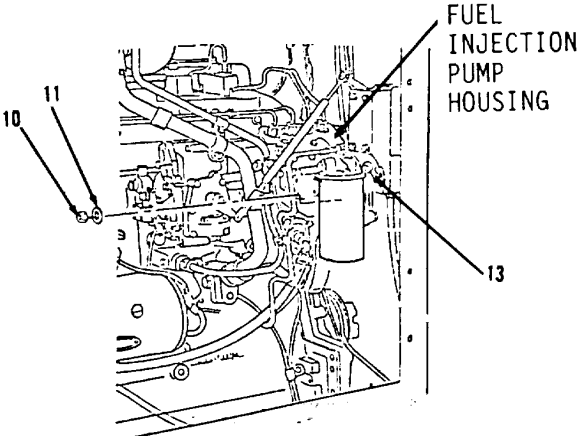
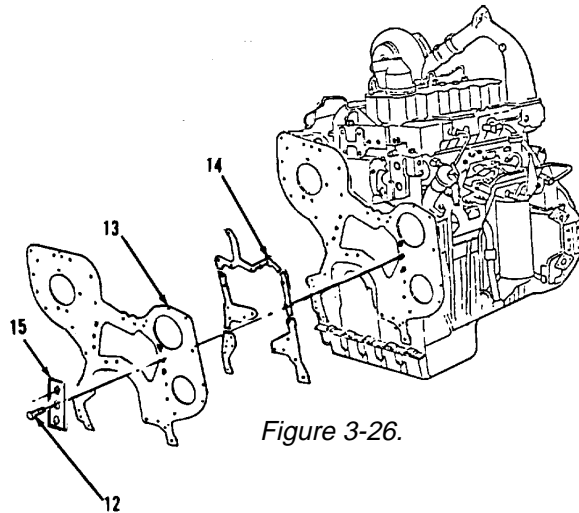

Figure 3-25.
Figure 3-26.
- 7. Remove three nuts (10) and washers (11) from studs that hold the fuel injection pump housing to plate (13, Figure 3-25).
8. Remove six bolts (12), locks (15), plate (13) and gasket (14, Figure 3-26) from engine block. Discard gasket (14). Remove all gasket material from mounting surfaces.
1. Install new gasket (14, Figure 3-26) on cylinder block.
2. Trim gasket (14) even with bottom of cylinder block. Apply gasket cement to bottom of gasket (14) where it touches gasket for oil pan plate.
3. Install plate (13), locks (15) and six bolts (12).
4. Install three washers (11) and nuts (10, Figure 3-25) on studs that hold fuel injection pump to plate (13).